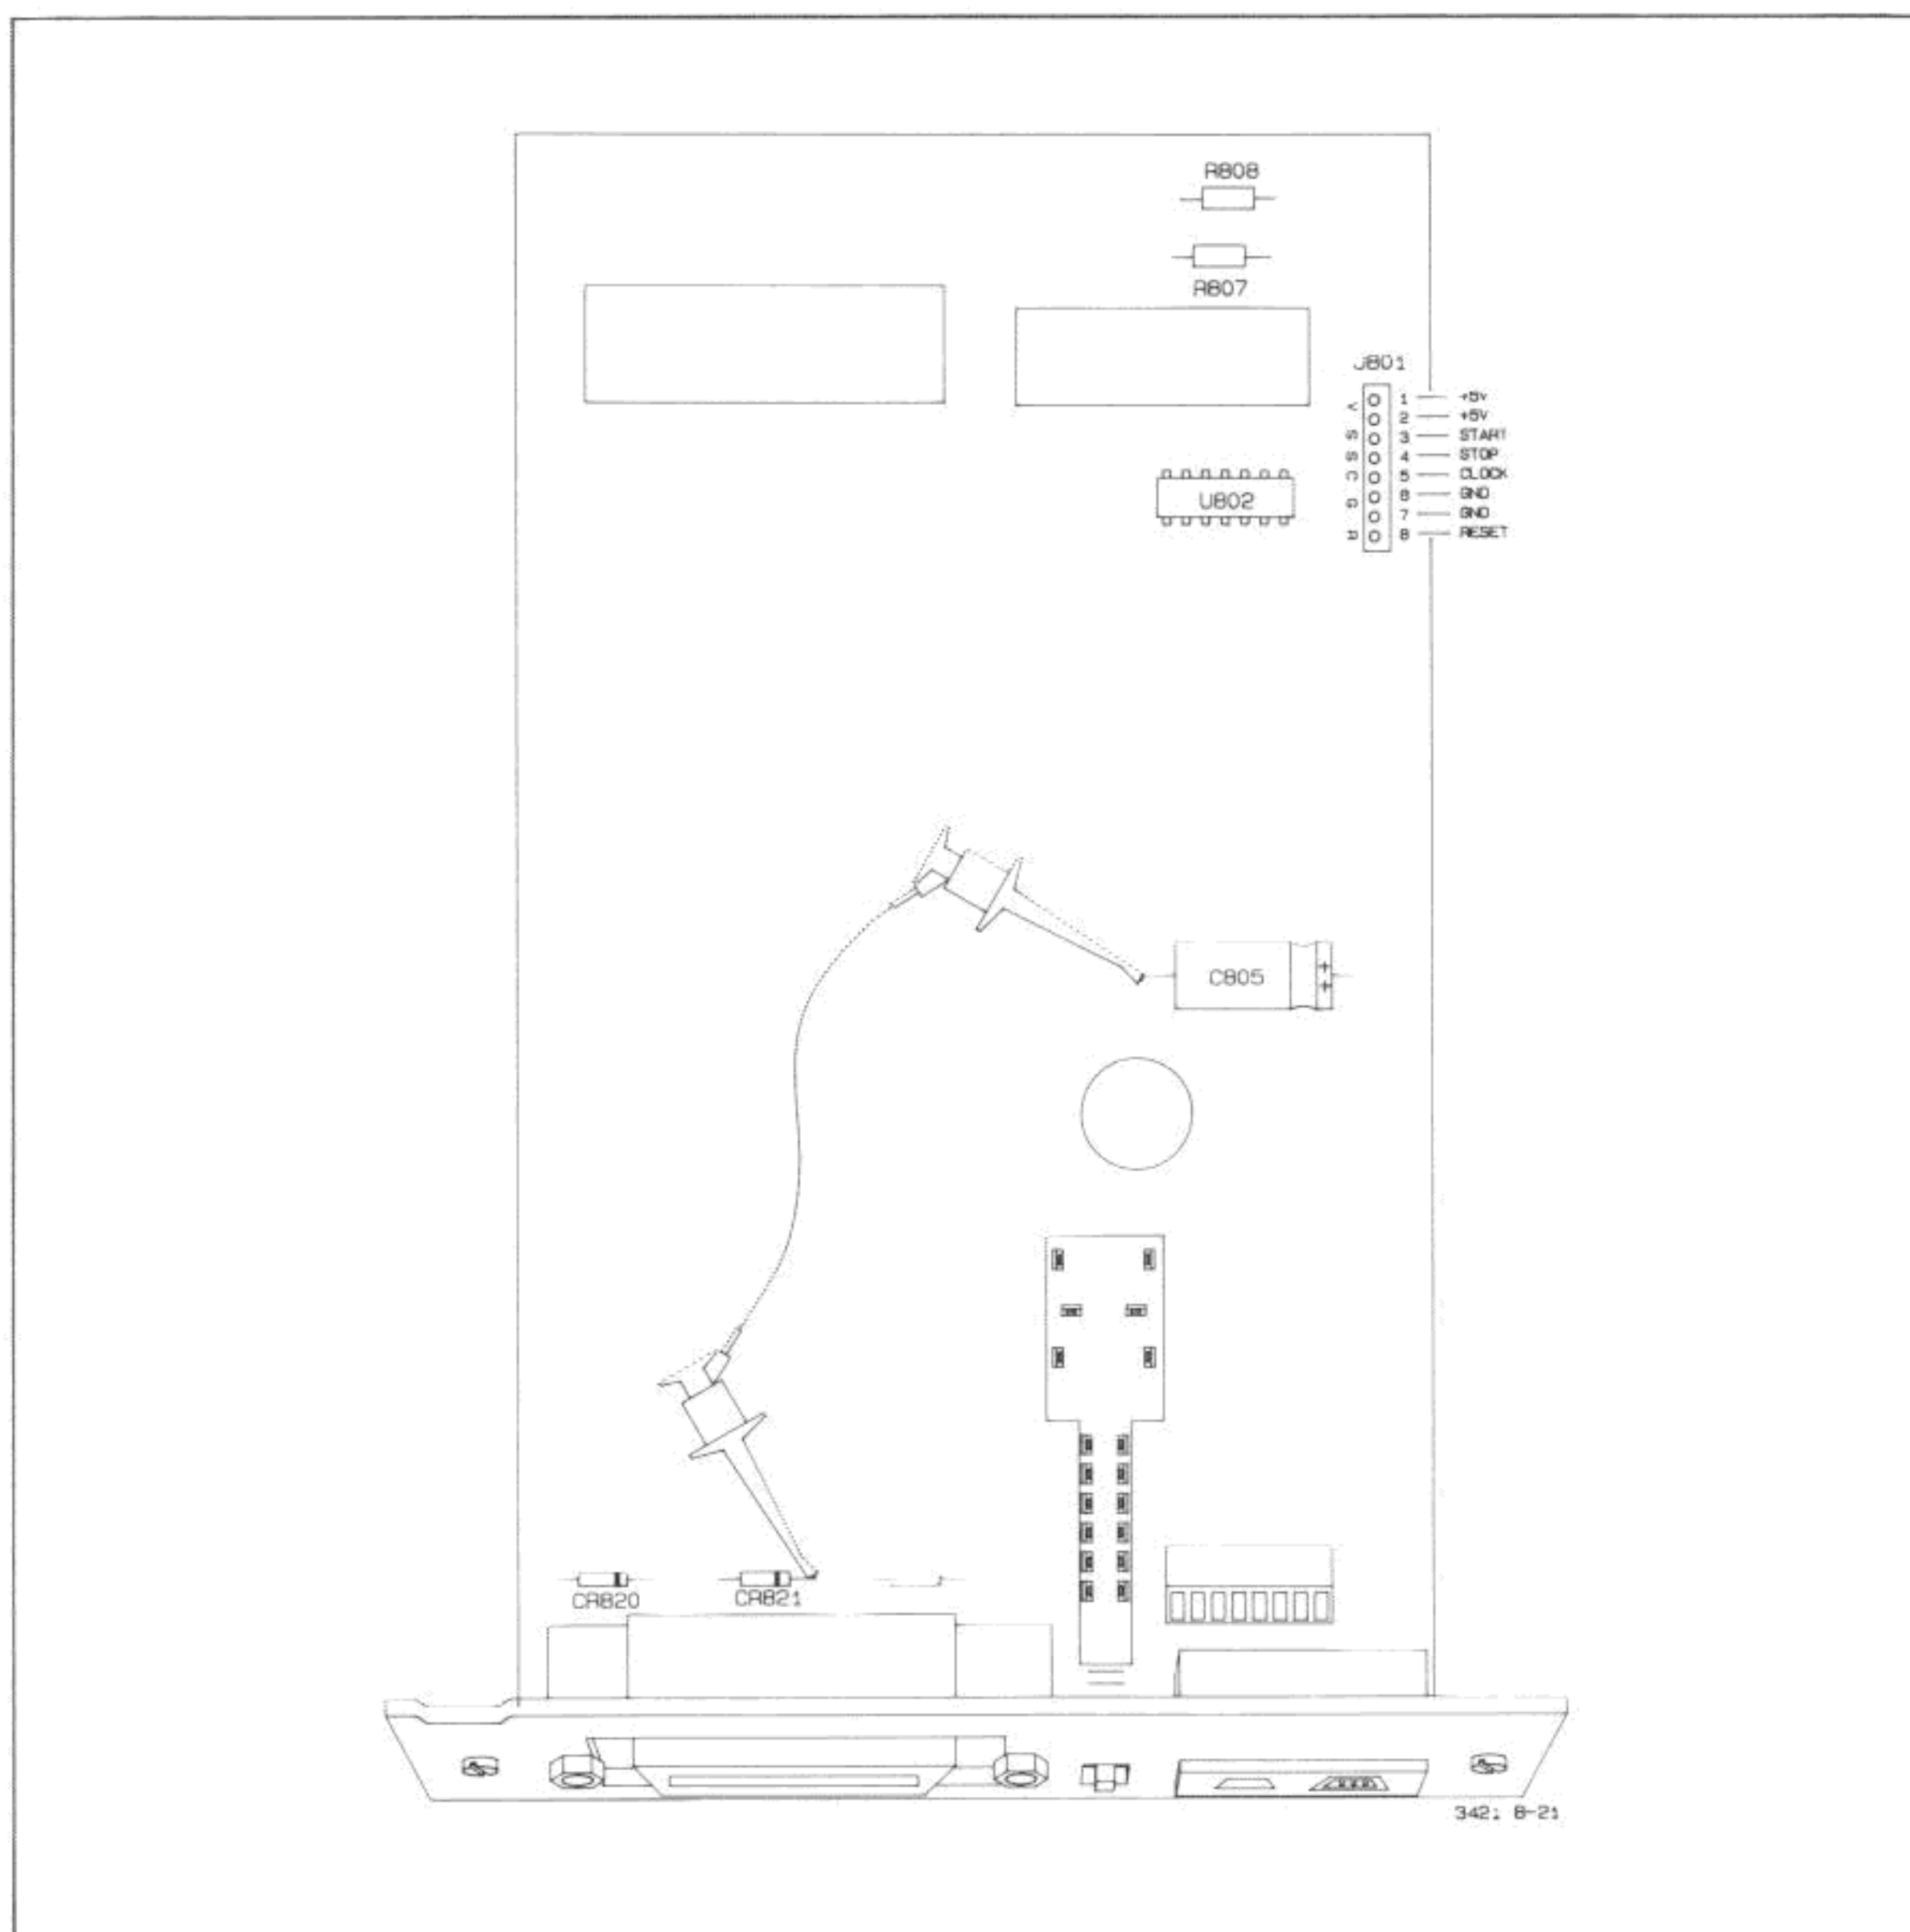

Figure 4-8-21. Jumper Configuration for SA Test #3
e. Refer to Figure 4-8-21 and connect the cathode of CR821 to the negative side of C805.